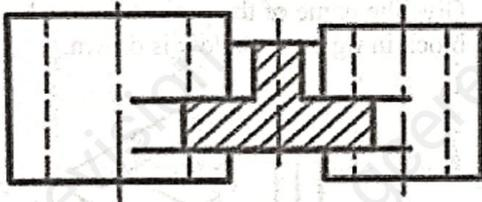

Figure 14
19. The type of section shown in figure 14 below is known as a ___ section